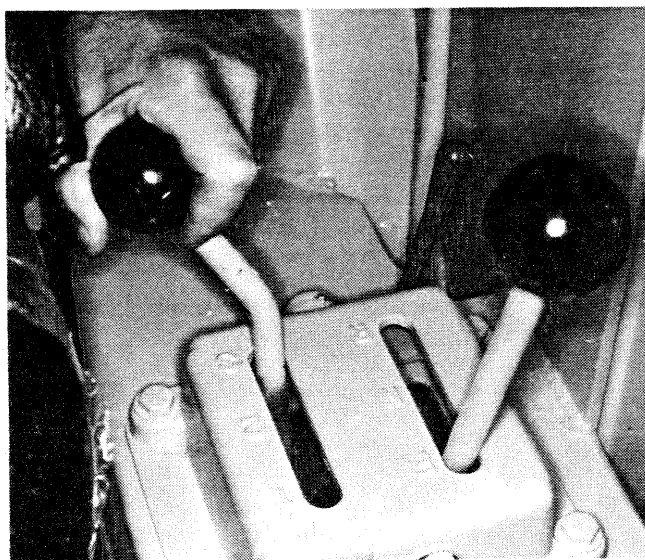

Fig 3-4
**IMPORTANT NOTE:** 551E, 551F, 541E, 541F, 543E and 558F serial number machines are equipped with Forward-Reverse Modulation to provide a system cushion when the machine's direction is changed while it is still moving. This feature should ONLY be used in the FIRST or SECOND Speed Ranges (See Fig 3-4). Damage to the transmission can result if this feature is used in the THIRD Speed Range at travel speeds.